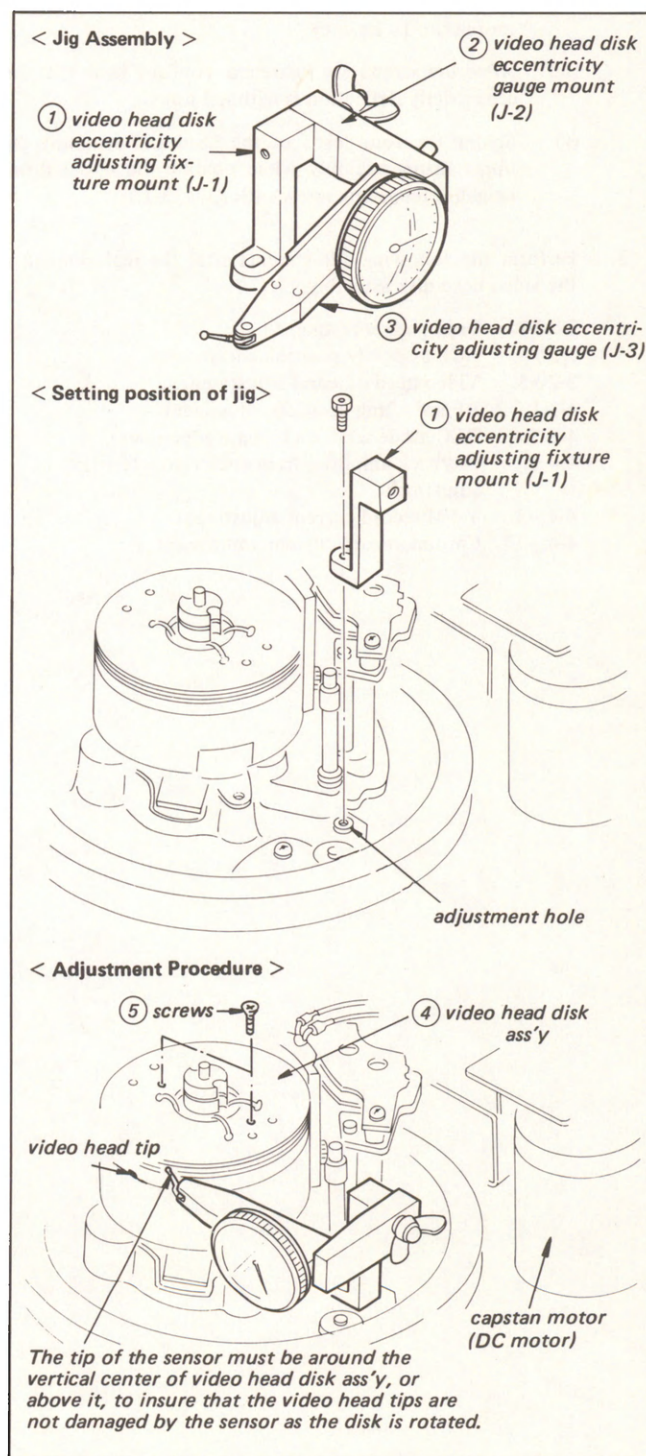

Fig. 3-2. Eccentricity adjustment of the video head disk assembly
- (i) Combine adjusting fixture parts ①, ②, and ③ as shown in Fig. 3-2. Set the combined fixture on the machine by mounting the eccentricity gauge assembly in the adjustment hole. See Fig. 3-2.